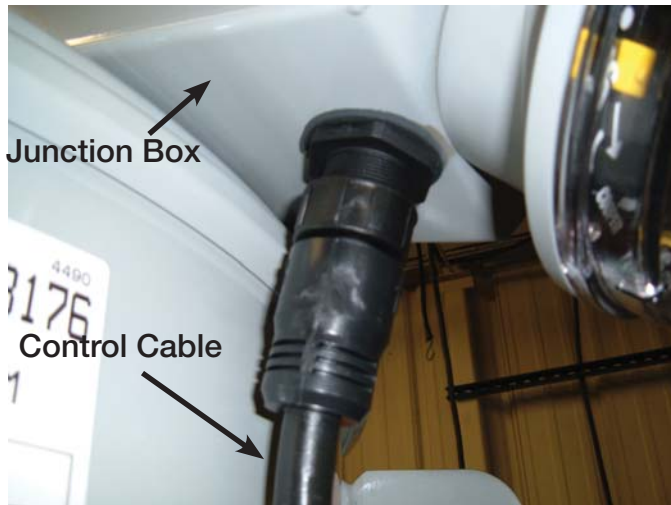

Figure 1.
2. Disconnect the control cable from the bottom of the junction box (refer to Figure 1).